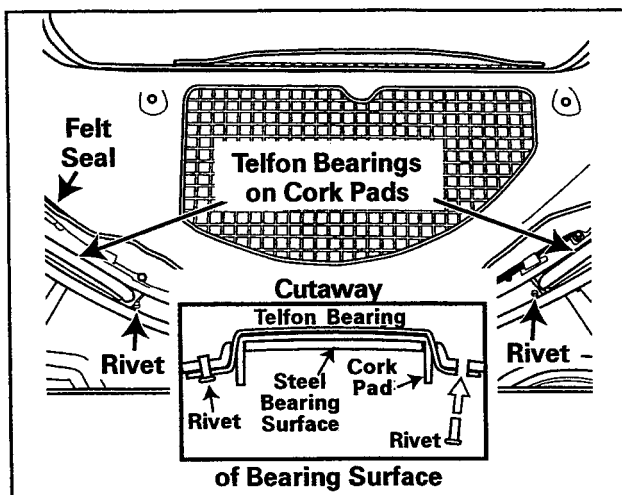

Figure 2-77
3. Drill out the old rivets and rivet new bearings in place. In positioning the bearing and cork pad, the face of the bearing should ride against the tumbler (Figure 2-77).